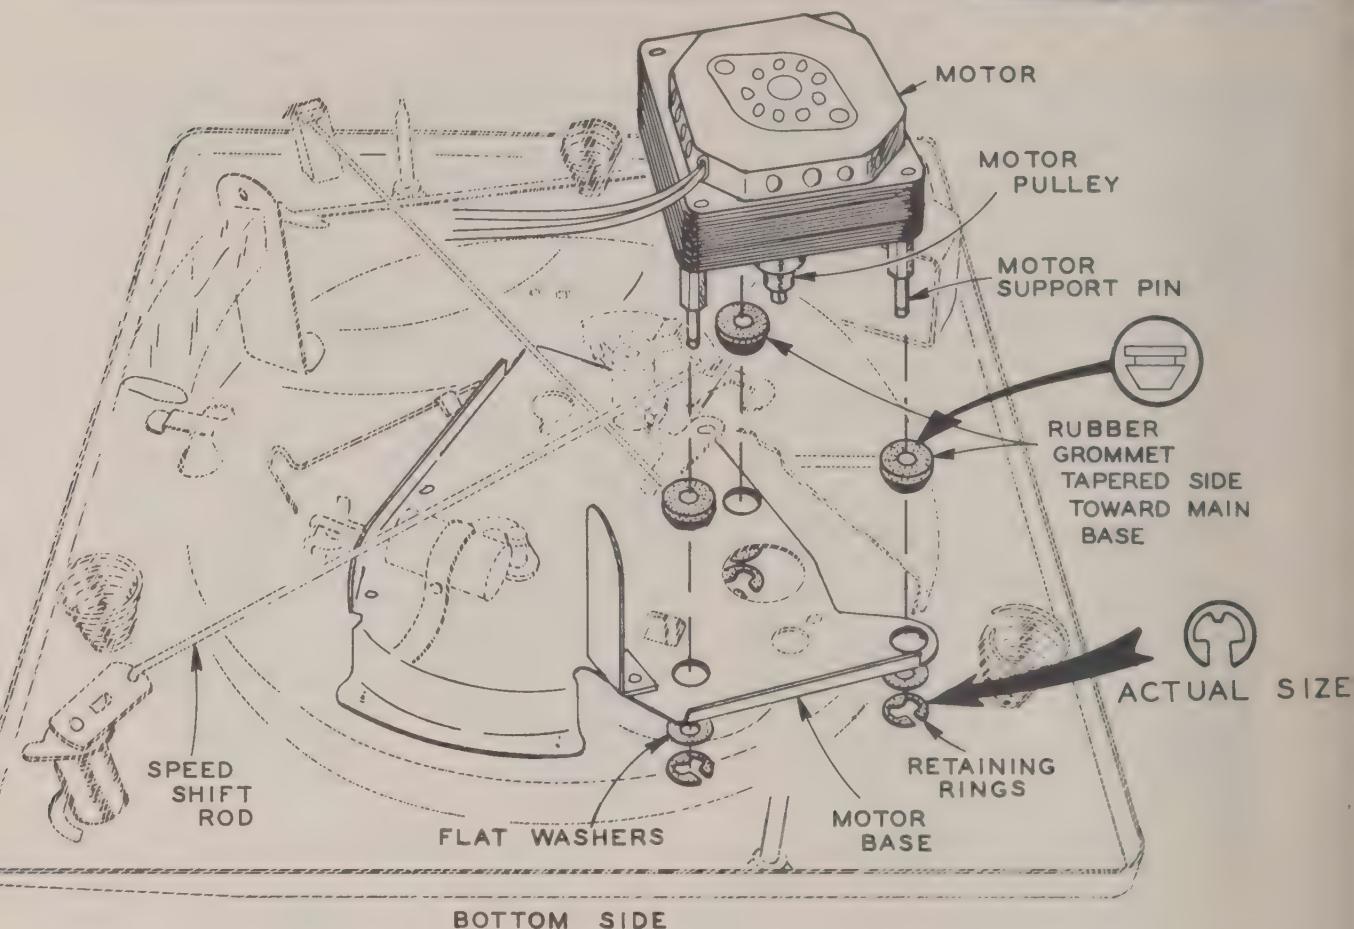

Figure 1
- () With the changer subassembly positioned as shown in Figure 1, insert the three rubber grommets from bag "EE" in the motor support holes as indicated. Make sure the grommets are seated in their grooves with the tapered end between the changer base plate and the motor mounting plate.
- () Insert the motor support pins through the grommets. Refer to Figure 1.
- () Secure the motor in position by snapping the three motor support retaining rings from bag "EE" into the grooves provided near the end of the support pins. Refer to Figure 1 and Detail 1A.